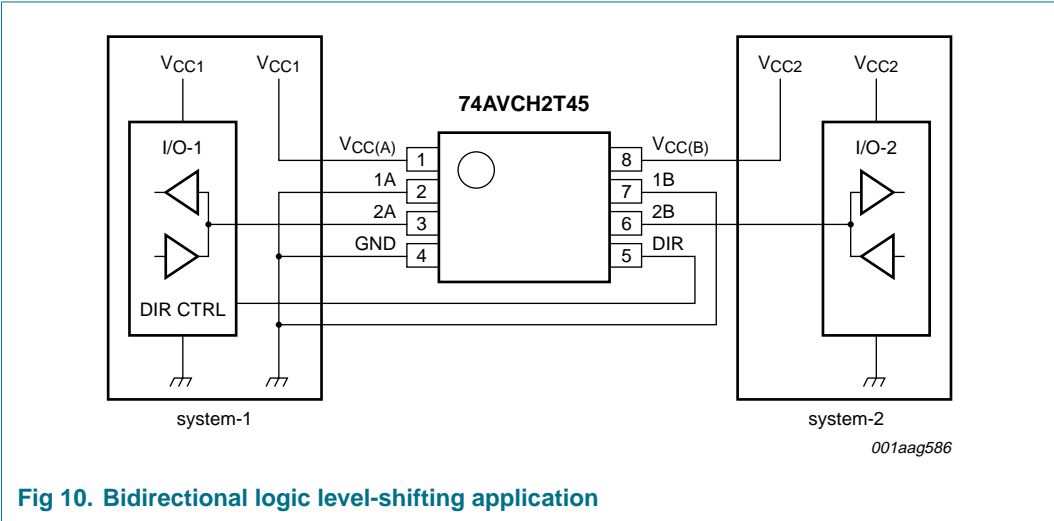

Fig 10. Bidirectional logic level-shifting application
Figure 10 shows the 74AVCH2T45 being used in a bidirectional logic level-shifting application. Since the device does not have an output enable (OE) pin, the system designer should take precautions to avoid bus contention between system-1 and system-2 when changing directions.